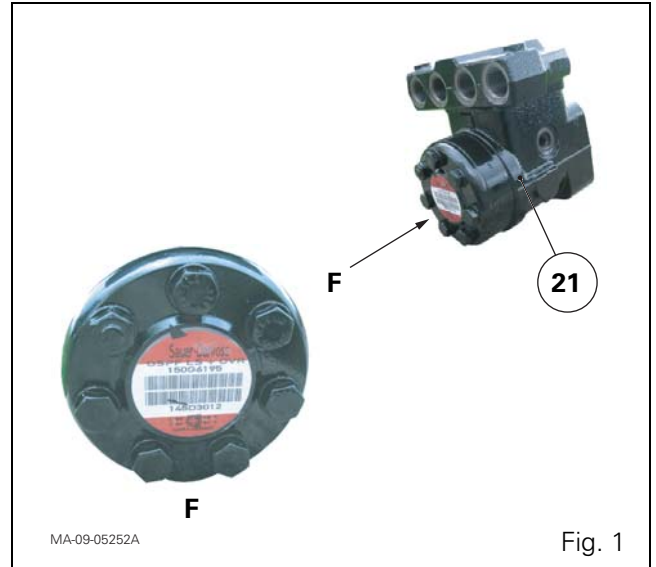

Fig. 1
The Orbitrol steering unit (21) type is displayed on an adhesive plate located below the steering unit (Fig. 1). The steering unit has no mechanical links, other than the steering column itself, between the steering wheel and steering ram.